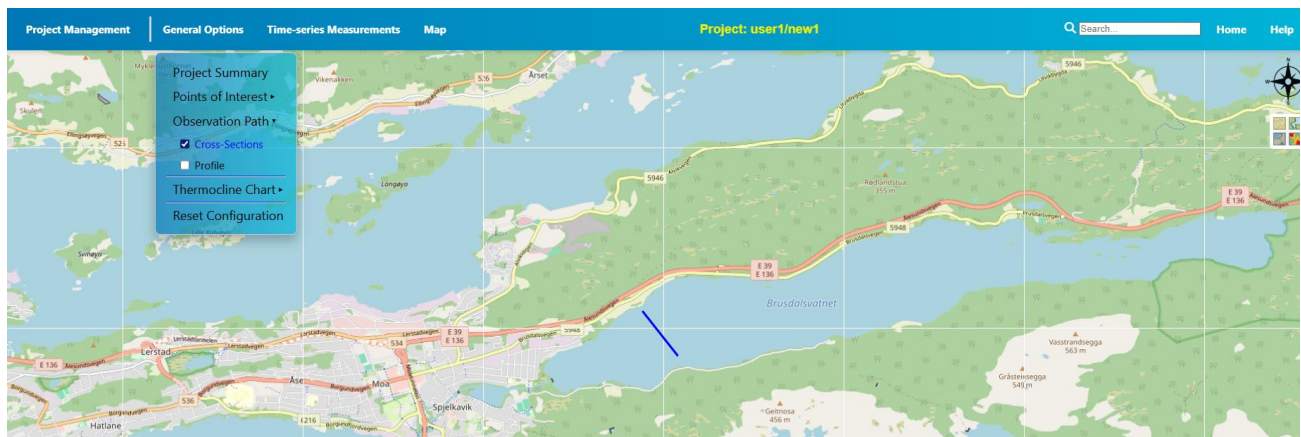

Figure 5.5. Cross-Sections option
- With “*Observation Path*”, user can show/hide *Cross-Sections* (if HYD simulation has this in output) and define “*Profile*” from an available map (Figure 5.5).